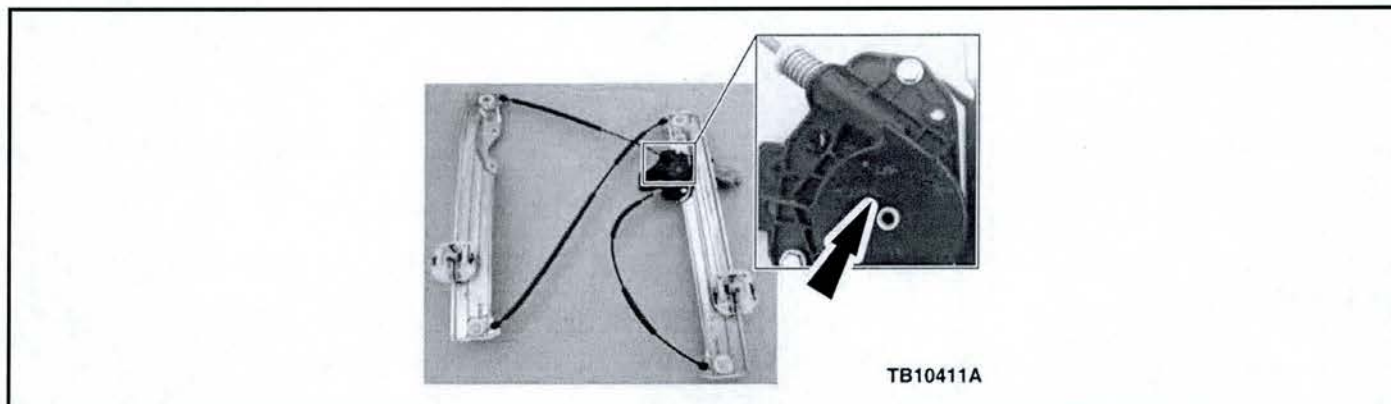

Figure 1 - Article 14-0111
3. Locate the part number on the window regulator. Is the suffix AG or higher. (Figure 1)